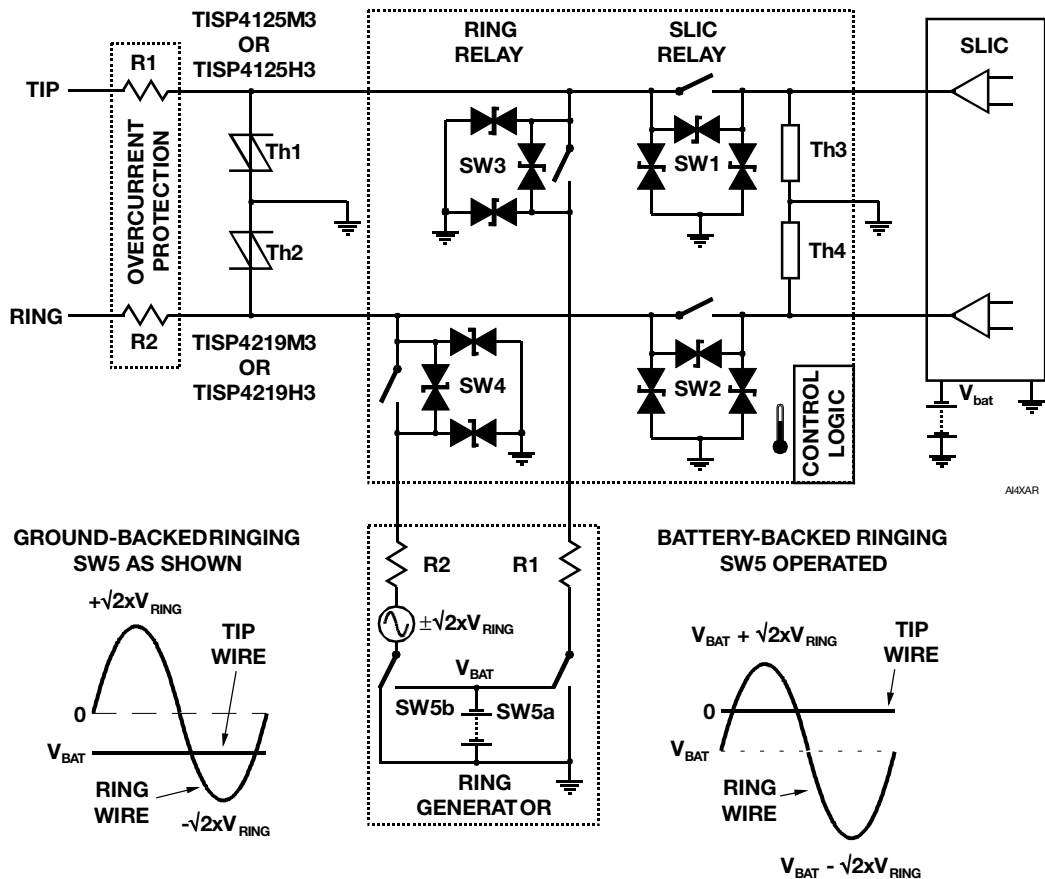

Figure 13. LCAS Shown with Switch Breakdown Limits
Figure 13 shows the LCAS switch voltage ratings as breakdown diodes, which must not be allowed to conduct. Each switch has three diodes; one between poles and the other two from each pole to ground. At 25 °C, switches SW1 through to SW3 have breakdown diode voltages of  $\pm 320$  V. Switch SW4 has breakdown diode voltage values of  $\pm 465$  V for the one between poles and  $\pm 320$  V for the two diodes connected to ground. Note that only protection to ground is required, as in the limit, the inter-switch voltage limitation of  $\pm 640$  V is the same as the switch to ground limitation of  $\pm 320$  V and  $\pm 320$  V in both polarities.
- ground-backed and battery-backed ringing configurations (see Figure 13).